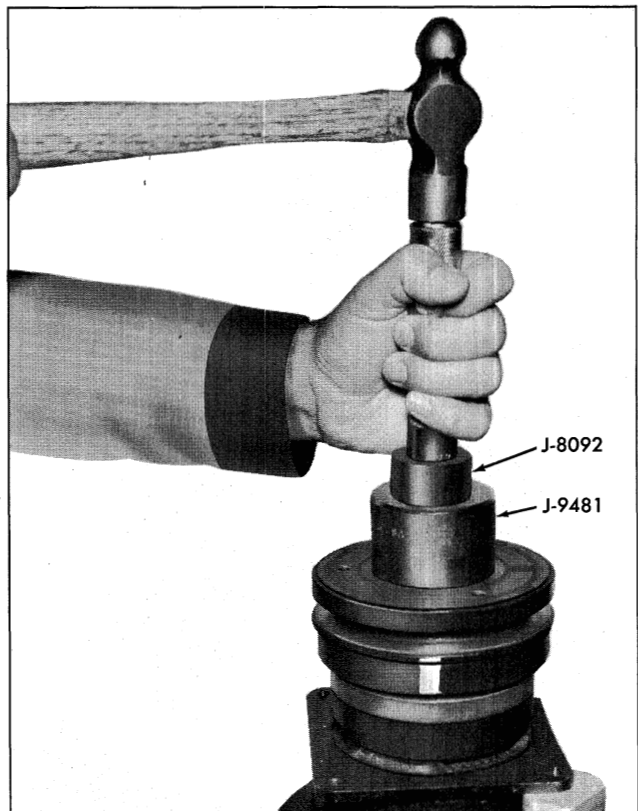

Fig. 4-22 Installing Pulley Assembly
3. Press or tap the pulley and bearing assembly on the neck of the compressor using J-9481 (Fig. 4-22).